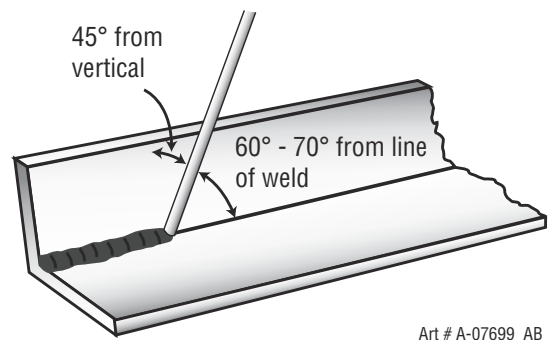
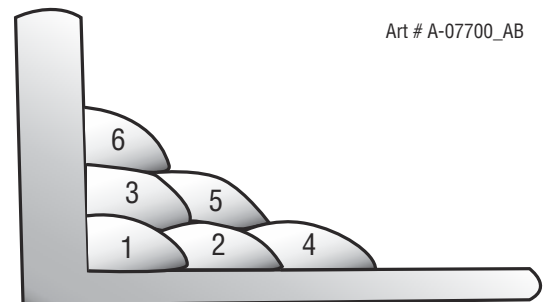

Figure 6-14: Electrode position for HV fillet weld
Figure 6-15: Multi-runs in HV fillet weld
A piece of angle iron is a suitable specimen with which to begin, or two lengths of strip steel may be tacked together at right angles. Using a 3.2mm Ferrocrafter 21 electrode at 100 amps, position angle iron with one leg horizontal and the other vertical. This is known as a horizontal-vertical (HV) fillet. Strike the arc and immediately bring the electrode to a position perpendicular to the line of the fillet and about 45° from the vertical. Some electrodes require to be sloped about 20° away from the perpendicular position to prevent slag from running ahead of the weld. Refer to Figure 6-14. Do not attempt to build up much larger than 6.4mm width with a 3.2mm electrode, otherwise the weld metal tends to sag towards the base, and undercut forms on the vertical leg. Multi-runs can be made as shown in Figure 6-15. Weaving in HV fillet welds is undesirable.